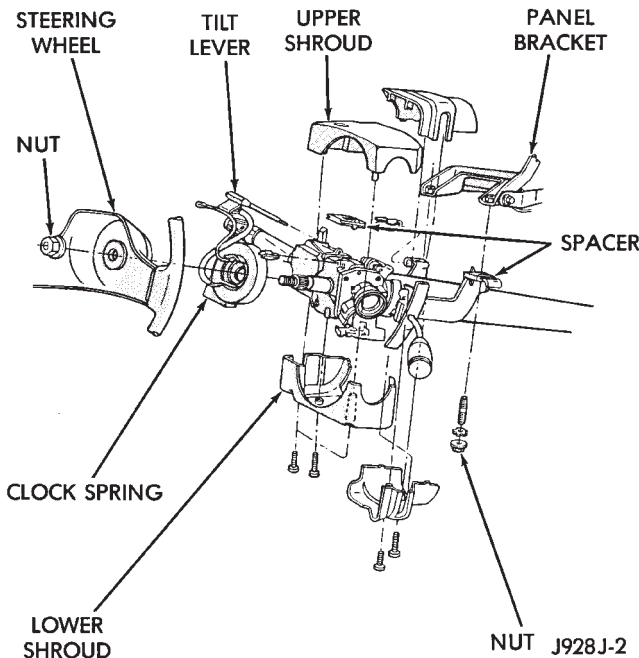

Fig. 5 Steering Column Shrouds Remove/Install
- (4) Remove both upper and lower shrouds from column (Fig. 5).
- (5) Remove lower fixed column shroud.
- (6) Loosen steering column upper bracket nuts. Do not remove nuts.